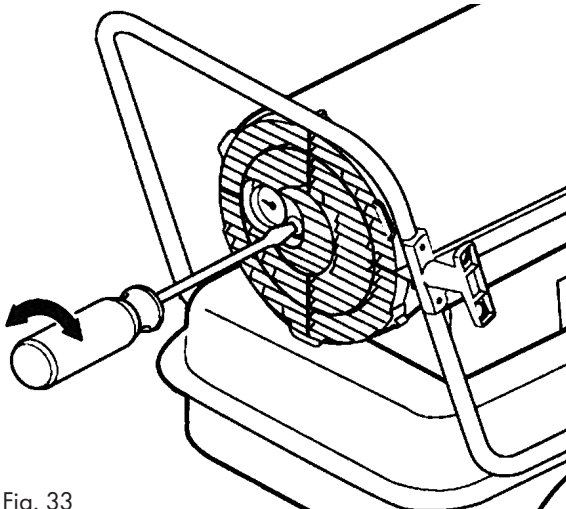

Fig. 33
- Use a flat blade screwdriver to turn the valve, See Fig. 33